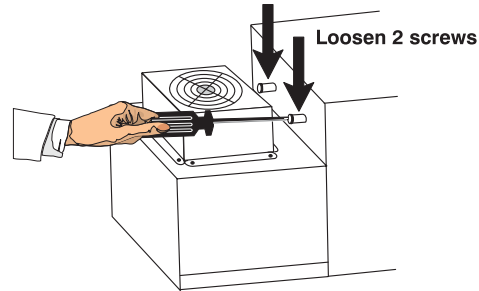

Figure 4.1.
- (a) Loosen the 2 screws securing the lamp door to the side of the PHM module. (Figure 4.1.)